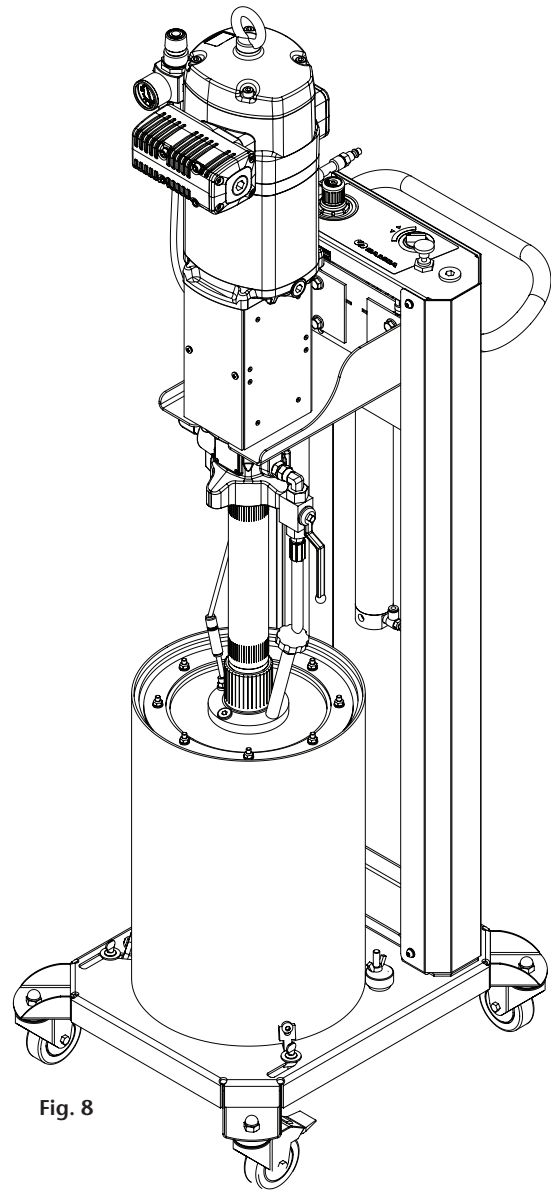

Fig. 8
- The equipment is ready to use (Fig. 8).